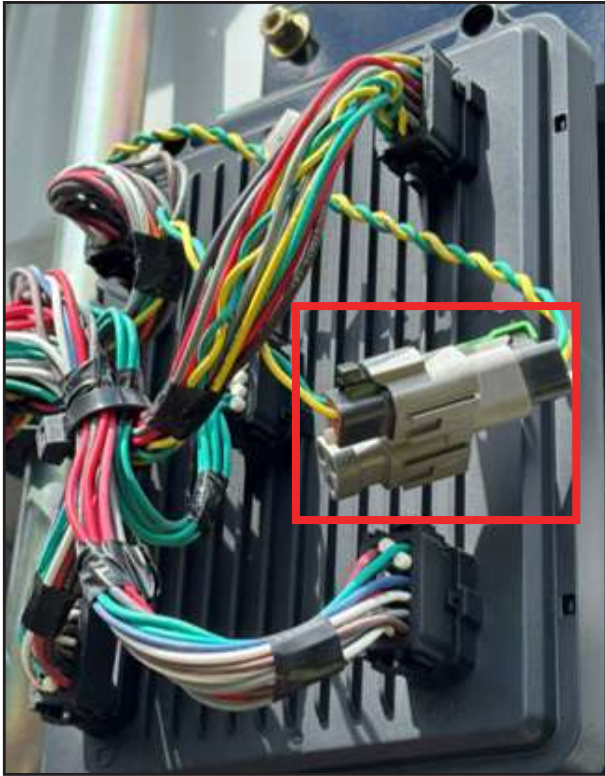

Figure 5
12. Insert PN 3065419 terminating resistor into Y socket of PN 1449230 (Figure 5).
13. Insert the Deutsch 3-socket plug with two wires from PN 1673284 into Y socket of PN 1449230 (Figure 5).